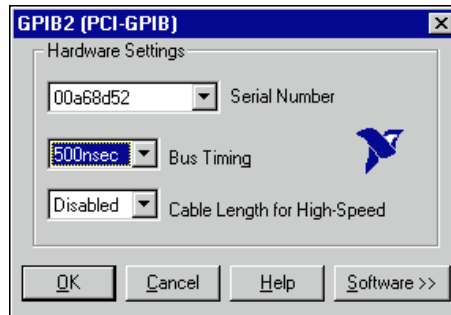

Figure 2-4. PCI-GPIB Configuration Dialog Box
1. Click on the **Configure** button to bring up the **PCI-GPIB Configuration** dialog box, as shown in Figure 2-4.
1. Click on the **Configure** button to bring up the **PCMCIA-GPIB Configuration** dialog box, as shown in Figure 2-4.